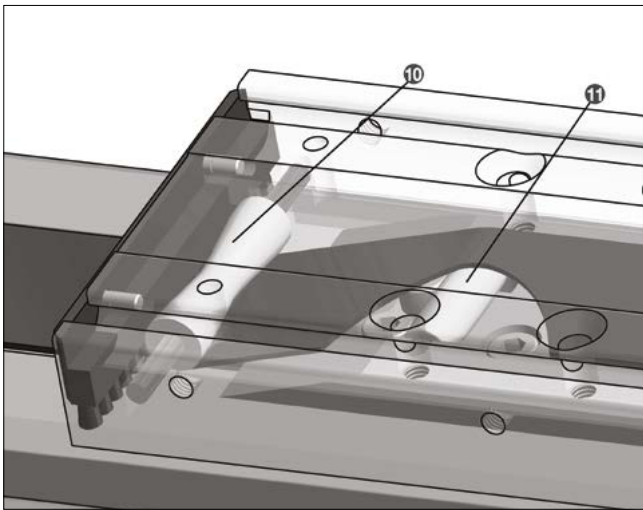

Figure 4.16 __ Cover strip deflection
4. Make sure that the guiding roller **10** in the table unit and the pressure roller **11** in the slider plate can be easily moved and are free from wear, if applicable and clean or replace them (Figure 4.16). In the case of wear-related replacement of the cover strip, we always recommend replacing the guiding and pressure rollers as well (wear part sets see Chapter 4.16).